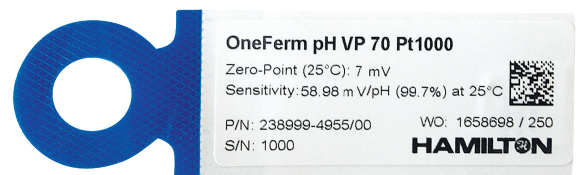

Figure 5: Example sensor label with calibration values.
1. Read the zero point (mV) and sensitivity (mV/pH or %) written on the sensor label (see figure 5).